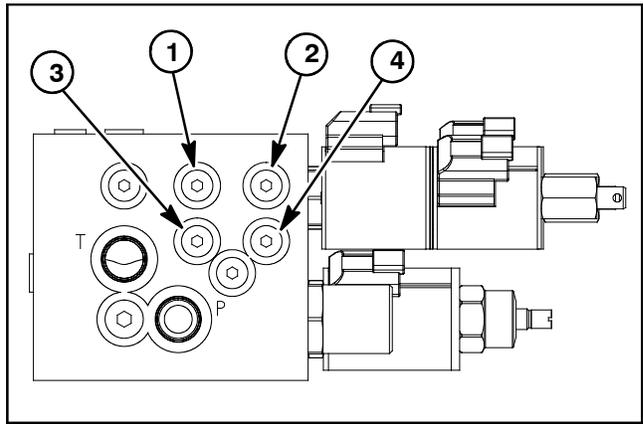

Figure 37
The ProPass control manifold includes four (4) check valves used for circuit control. Check valve location is identified in Figure 37. Remove check valves from manifold for cleaning or replacement. Replace seal kit on check valves if removed from manifold. Torque check valves from **12 to 14 ft-lb (16 to 18 N-m)** when installing them into manifold.